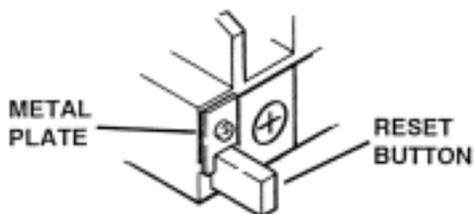

Figure 6-23.
3. The Thermal Relay should reset itself after approximately one minute if it is in the AUTO mode (this is the normal factory setting). If the relay fails to reset itself, check to make sure that the reset button is held IN with the small metal plate. See figure 6-23.